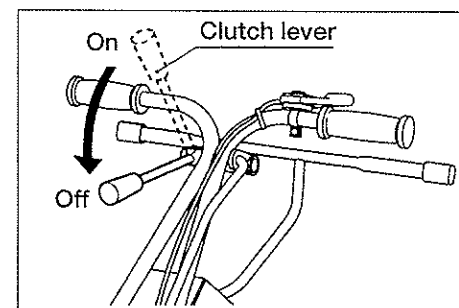

Fig. 9
- ① Set the clutch lever in the off position (Fig. 9).